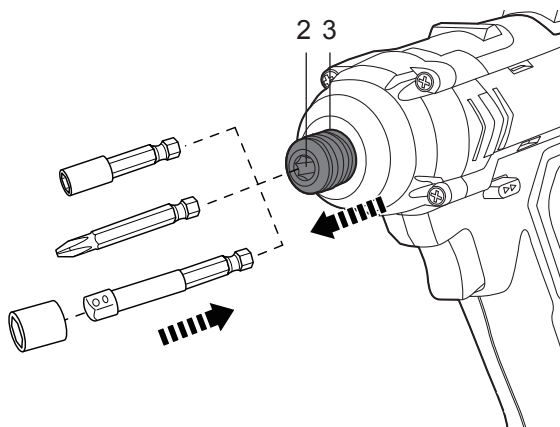

Fig. 1
- > Pull the sleeve (3) and insert a suitable driver bit all the way to the stop into the tool holder (2). Release the sleeve (3) to lock the bit in place (Fig. 1).